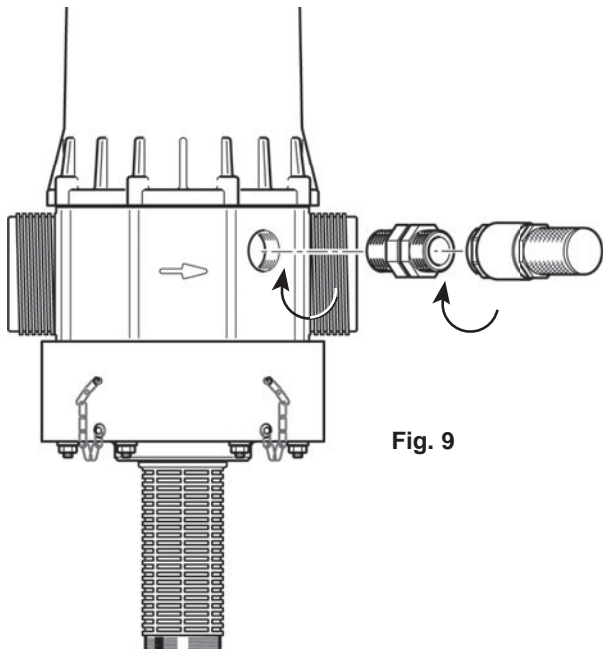

Fig. 9
- This automatically recreates normal atmospheric pressure in the line (**Fig. 9**)\*.